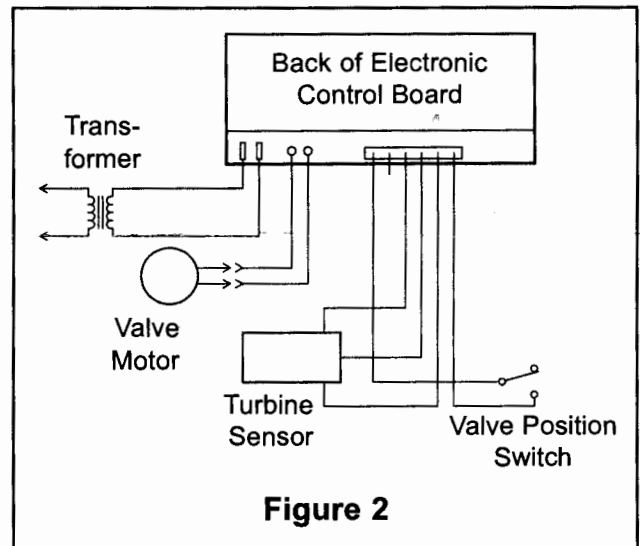

Figure 2
5. Unplug the wiring connections from the back of the old Electronic Control Board (See Figure 2).
8. Reconnect the wiring to the new board (See Figure 2).